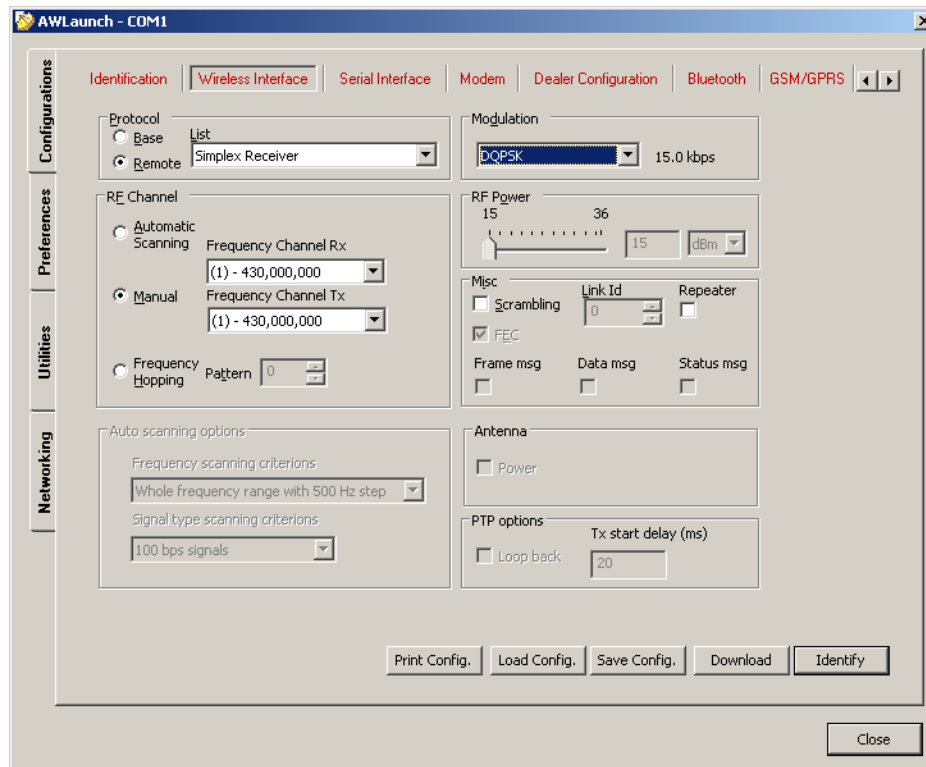

Figure 2-7. Configurations tab. Wireless subtab
6. In the *Configurations* ▶ *Wireless* sub tab set the parameters presented in Table 2-1 (Figure 2-7 on page 23).